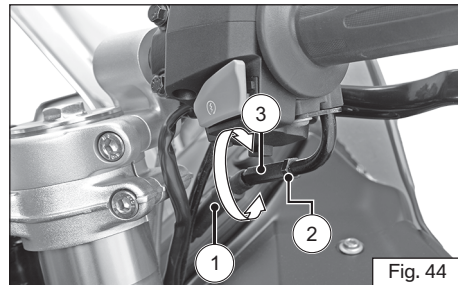

Fig. 44
- ◆ Slide the boot throttle adjuster (1) and then loosen the lock nut (2) (ref. Fig. 44).
- ◆ Turn the throttle cable adjuster (3) 'in' or 'out' until the specified play is obtained (ref. Fig. 44).